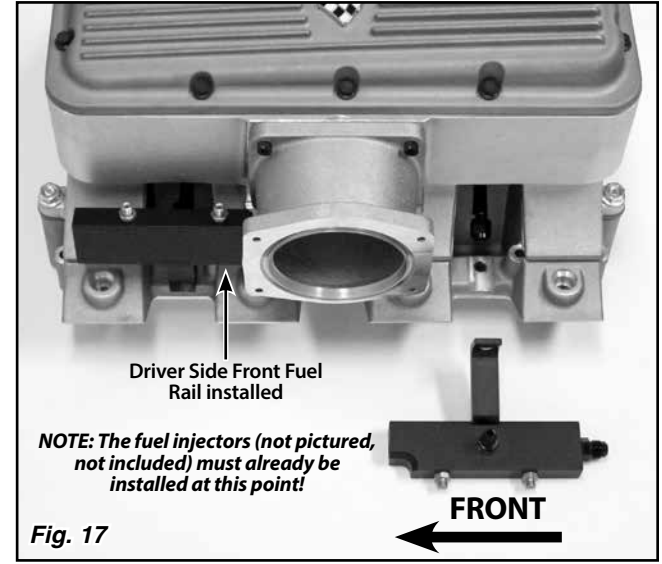

Fig. 17
Step 20: Tighten the 1/4"-20 x 3/4" socket head bolts holding the fuel rail brackets in two steps. Tighten to 7 lb.-ft. for the first step, and to 12-15 lb.-ft. for the second step. Then, tighten the -4 AN fuel hard line nuts. **Figs. 17, 18, 19, and 20**